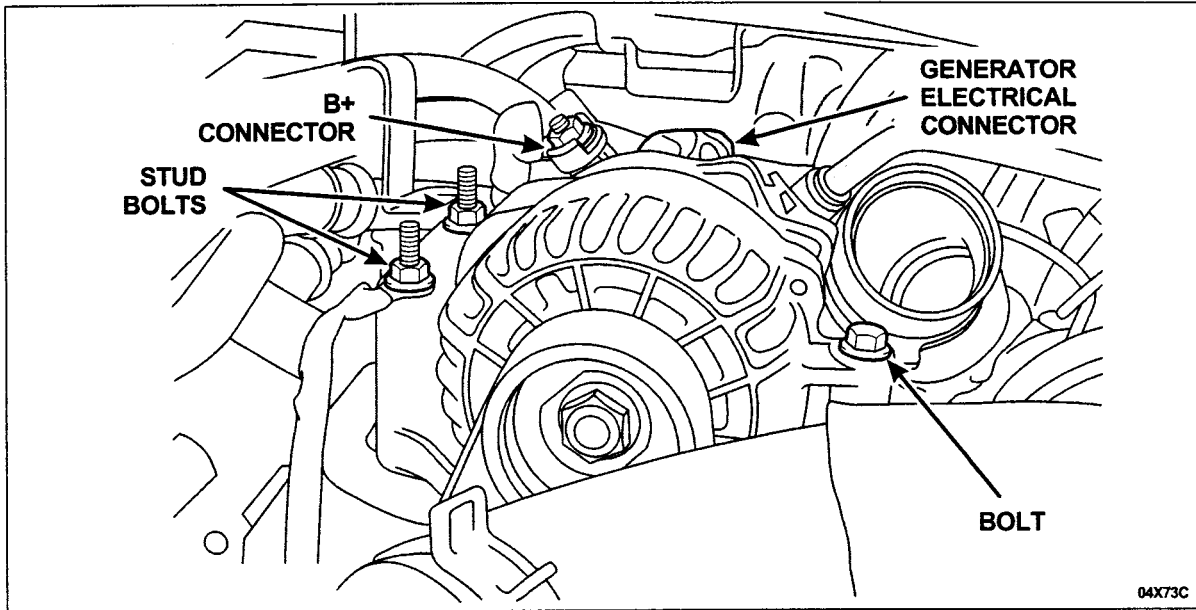

FIGURE 3
7. Remove the generator as follows. See Figure 3.